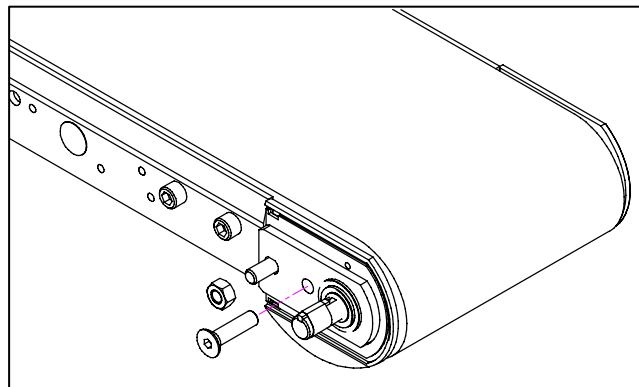

Figure 1
① Prepare the conveyor
a. Remove the Flat Head Screw from the Bearing Plate with a 3/16" Allen Wrench (**Figure 1**).